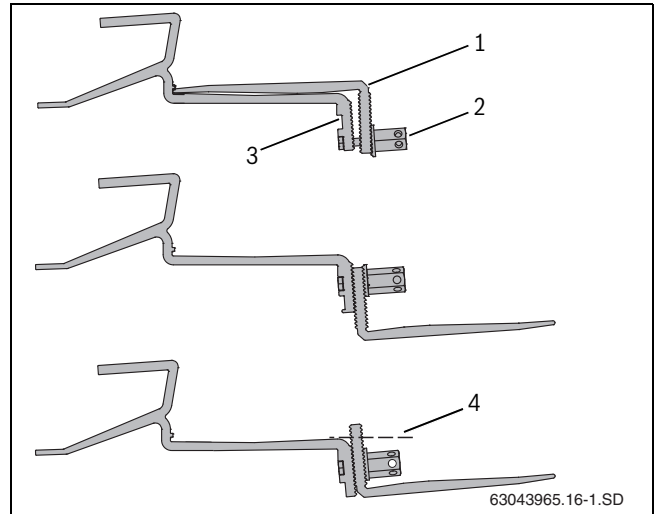

Fig. 16 Position lower part of roof hook again
- Loosen long hexagon nut (Fig. 16, [2]).
- Insert the screw in the upper hole (Fig. 16, [3]).
- Loosely fasten the lower part of the roof hook (Fig. 16, [1]). Do not tighten the connection yet.